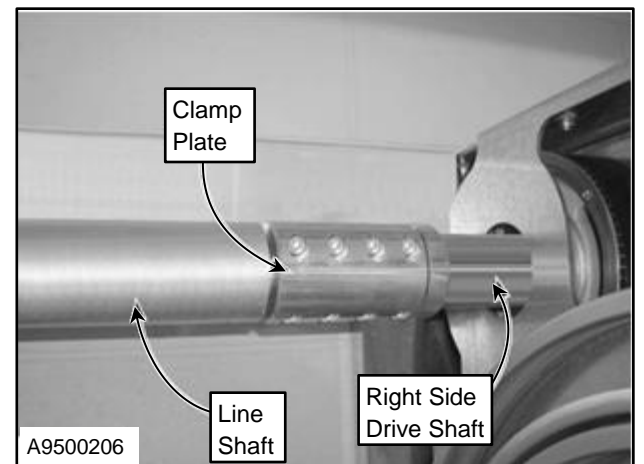

Figure 29
6. Inspect the hardware used to clamp the line shaft to the left & right drive shafts. Tighten the hardware as required. Replace any missing or damaged hardware. (See Figure 29)